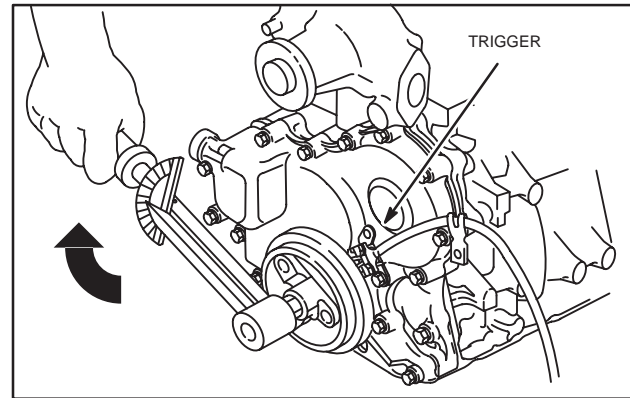

Fig. 18 – Installing Pulley
- Install crankshaft pulley with timing mark at 12 o'clock position (#1 cylinder), Fig. 18.